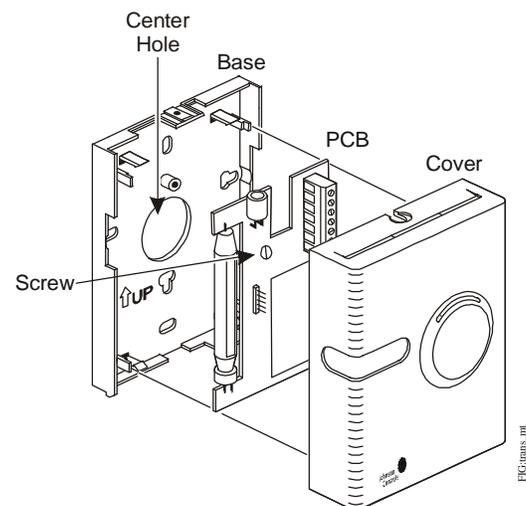

Figure 1: Mounting the Transmitter to the Base
The CD-W00-x0-1 Series Wall Mount CO₂ Transmitters include a base, Printed Circuit Board (PCB), and cover (Figure 1).
7. To install the PCB into the base, see Figure 1 and:
3. Reposition the cover as shown in Figure 1.